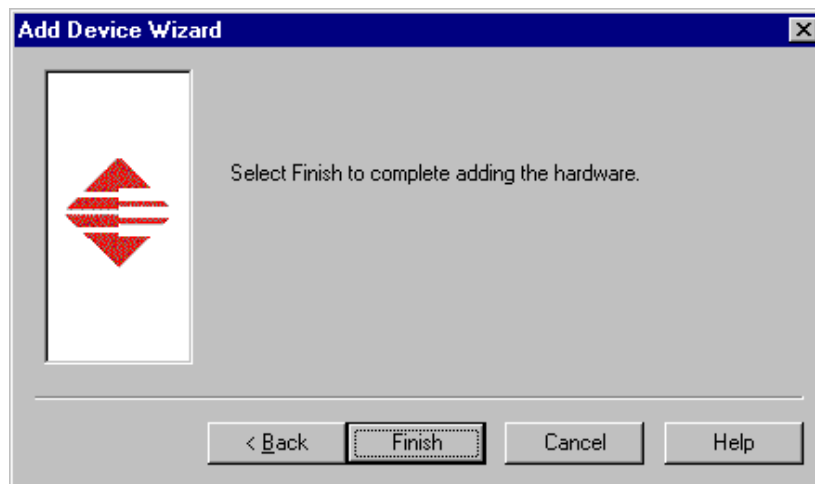

Figure 7. Finish the driver installation.
12. Click **Finish** to close the Add Devices Wizard (see Figure 7) and open the Device Properties dialog box.